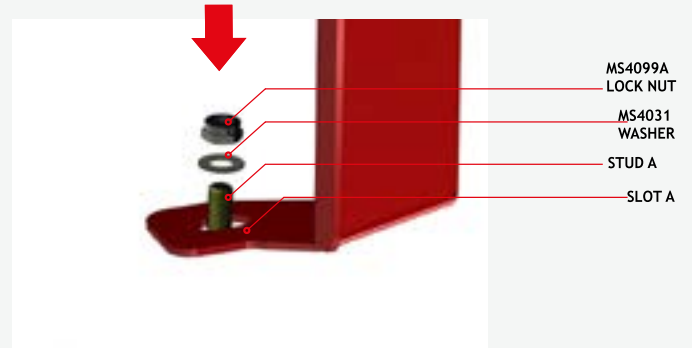

FIGURE 2A
- 5 Install supplied MS4031 M8 Washer onto engine bay Stud A, then screw on supplied MS4099A M8 lock nut onto Stud A. Refer to FIG.2A